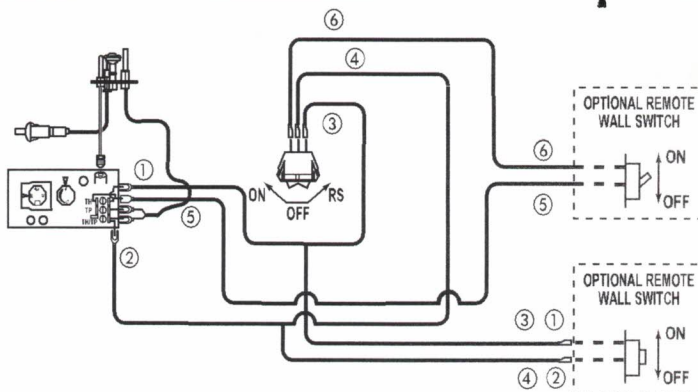

Figure 37 - Wiring Diagram for Wall Switch
A remote wall switch and up to fifteen (15) feet of 18 Ga. wire may be used with this appliance. Attach the wall switch in a junction box at the desired location on the wall. *Figure 37*. Do not extend beyond the wall switch wire length provided.